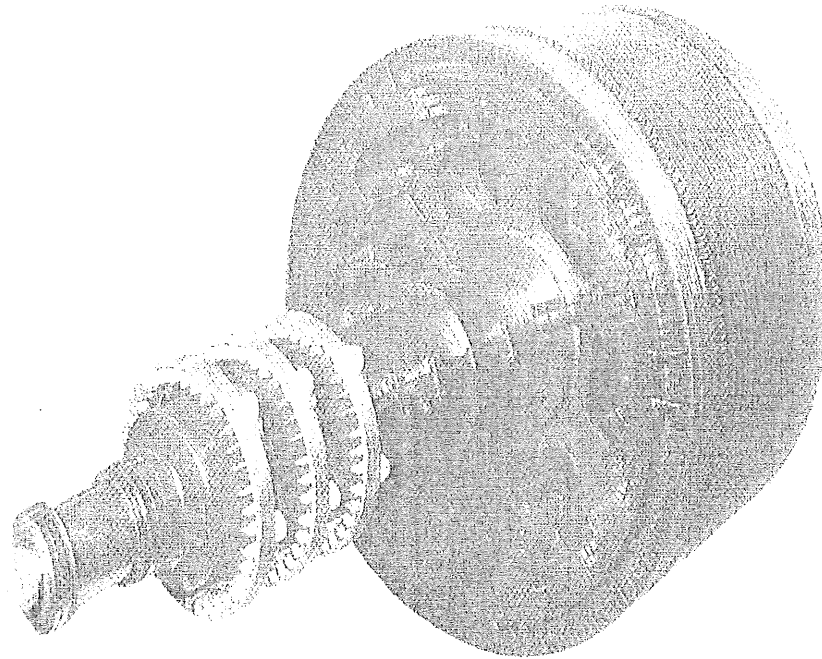

Figure 3
- e) Name the induction motor rotor type shown in Figure 3. (1 mark)